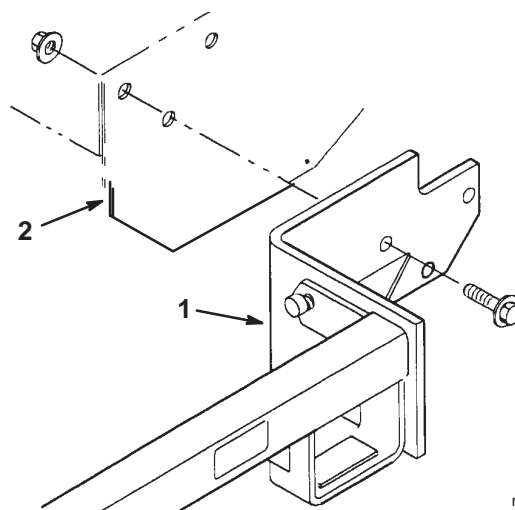

Figure 3
1. Align the carrier frame holes with the mounting holes in the traction unit frame (Fig. 3).
2. Fasten each side of the carrier frame to the traction unit with 3 flange bolts (1/2 x 1 inch) and 3 locknuts (1/2 inch) (Fig. 3).
3. Torque the flange bolts to 60–80 ft-lb (81–109 N•m) (Fig. 3).